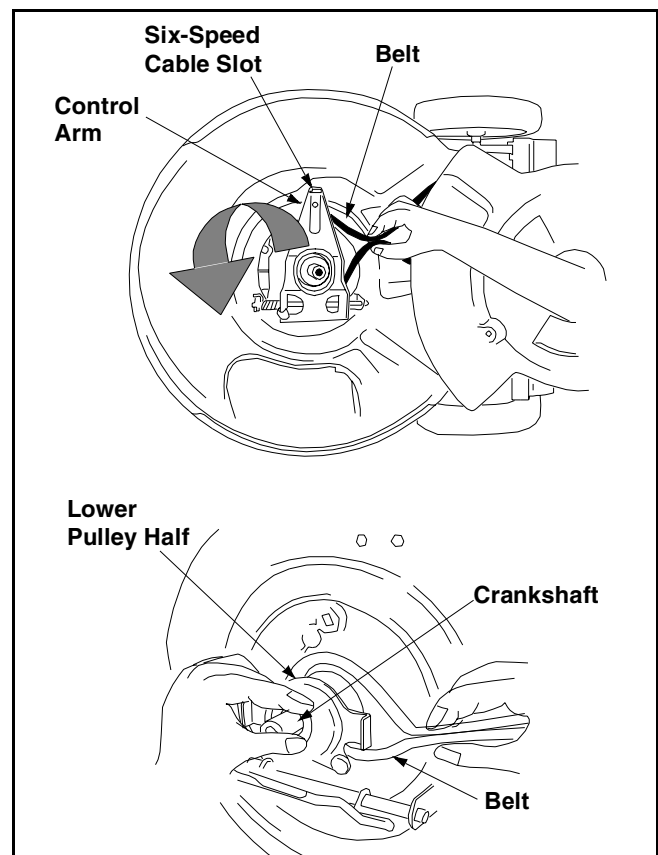

Figure 19
- Squeeze the belt together and push it forward, while pressing the control arm inward towards the deck and remove the six speed cable from the slot. See Figure 19.
- Lift off the lower pulley assembly and remove the old belt from around the crankshaft. See Figure 19.